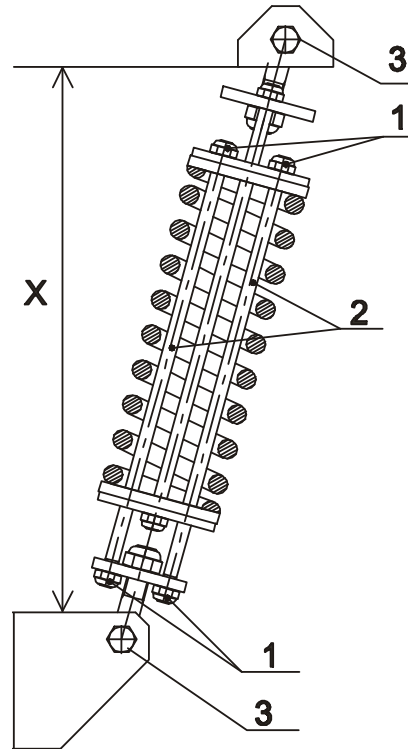

Figure 9.12.
1. Suspension spring eyes, Figure 9.12, pos.3
2. Guiding bars of the springs, Figure 9.12., poz.2
In case if the vibrating part of the machine is not in horizontal position without linen and water or if the replacement of spring unit has been made it is necessary to adjust the spring units, Figure 9.12. Adjustment is performed